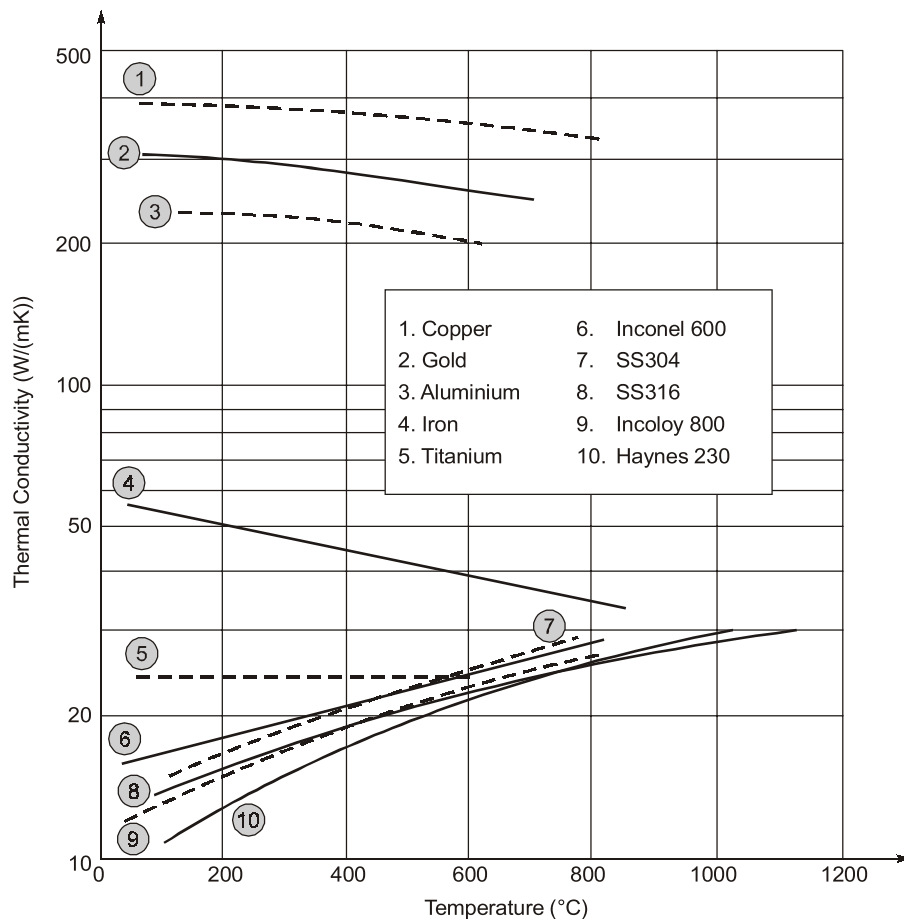

Figure 1.3 The variation of thermal conductivity with temperature for typical metals and their alloys
- Thermal conductivity of pure metals decreases with increase in temperature (Refer to Figure 1.3), because with increase in temperature lattice vibrations increases and that lowers the flow of free electrons.
- Thermal conductivity of alloys increases with increase in temperature. (Refer to Figure 1.3).